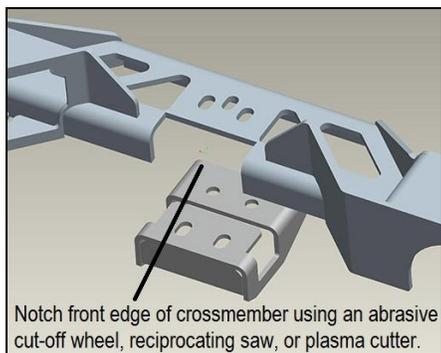

Figure 1
- 2. Cut a notch as wide as the 12628HKR bracket into the front of the 12625HKR crossmember. Place the notch in the center of the crossmember and cut it back 1-1/8" from the face of the crossbeam front flange (**Figure 1**).